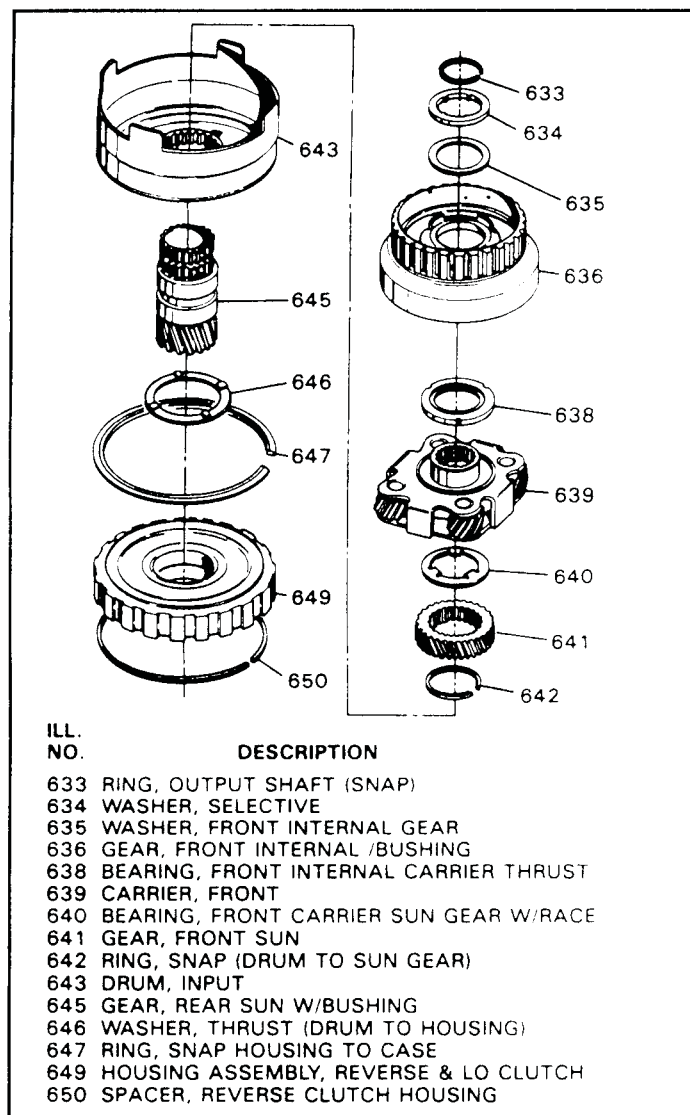

Figure 51
1. Remove the output shaft snap ring using a pair of snap ring pliers. Use care not to over expand the snap ring (See Figure 51).
2. Remove the front planetary ring gear with the selective washer and thrust washer, as shown in Figure 51.
3. Remove the front planetary carrier with the thrust bearing as shown in Figure 51.
4. Remove the thrust bearing assembly and the input sun gear as shown in Figure 51.
5. Remove the sun gear shell and the rear sun gear, as shown in Figure 51. Thrust washer (646) may be stuck to back of sun gear shell (See Figure 51).
7. Remove the snap ring from transmission case that retains the Lo/Reverse clutch housing(Figure 51).